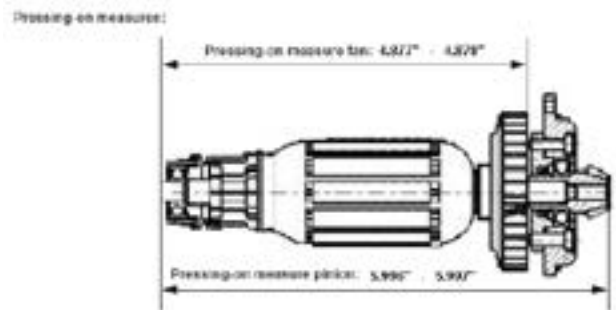

fig. 6
21, 25 When replacing a fan (25) on armature assembly (21), refer to illustration shown in fig. 6 for press dimensions.